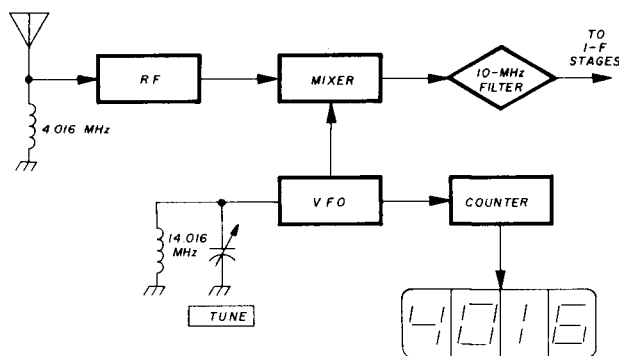

fig. 2. Electronic digital frequency readout using a 10-kHz i-f. Received signal is 4.016 kHz.
An alternative design (the GP-59) employs electronic digital frequency readout by using a 10-MHz i-f (fig. 2). This option offers more convenient frequency readout but at the price of more battery drain and a custom-made 10-MHz filter. The 10-MHz crystal filter is available in the U.S. on special order for about \$80.00. It can be home built.^{5,6} The filter in reference 6, which I've tried, is particularly attractive. It uses standard 10-MHz crystals.
fig. 2. Four different methods for supplying base current. (A) illustrates a simple diode clamp/Byistor circuit. The Byistor provides superior thermal runaway performance. By changing to the series regulator (B) instead of shunt regulators, the current requirement is reduced by $1/h_{fe}$. (C) shows another version which incorporates a simple transistor amplifier. This circuit, along with (D), is an active bias supply which features high current capability and low output impedance.